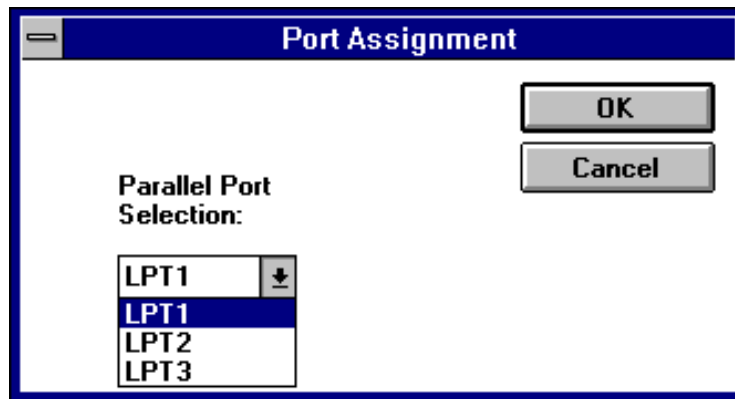

Figure 3-33. Port Assignment Dialog Box
1. Select **C**onfiguration ⇒ **P**ort Assignment from the ispDCD menu. The Port Assignment dialog box appears (Figure 3-33).